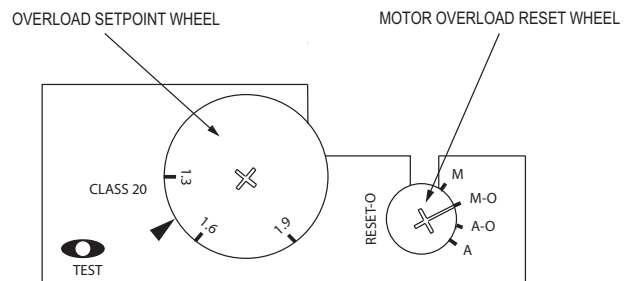

Fig. 24 — Motor Starter Setting
1. On the starter, adjust the Motor Overload to match the **FLA Rating** of the installed motor by turning the Overload Setpoint wheel to the appropriate value. See Fig. 24. Evaporator and condenser motor FLA Ratings are listed in Table 19.